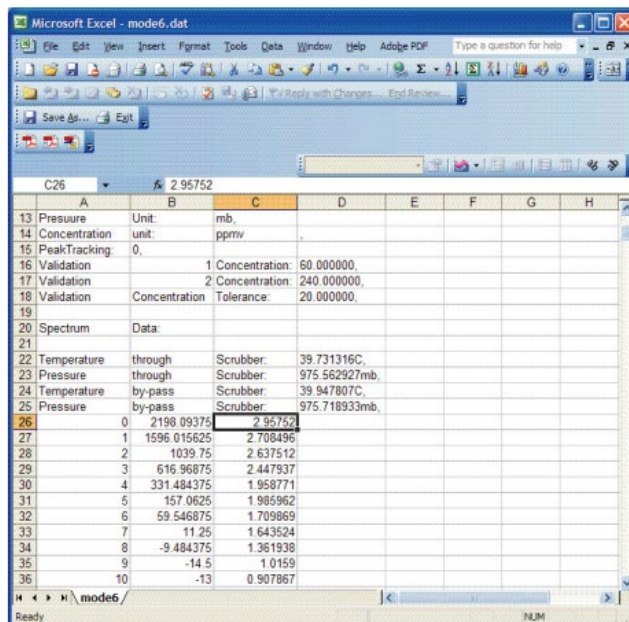

Figure 12. Highlighting imported data for plotting in Excel
4. Click on the upper right cell of the three columns, as shown in Figure 12. Hold the Shift key down while pressing the End key followed by the Down Arrow key to highlight the third column. Keep holding down the Shift key and press the End key followed by the Left Arrow key to select the three columns by 512 rows.